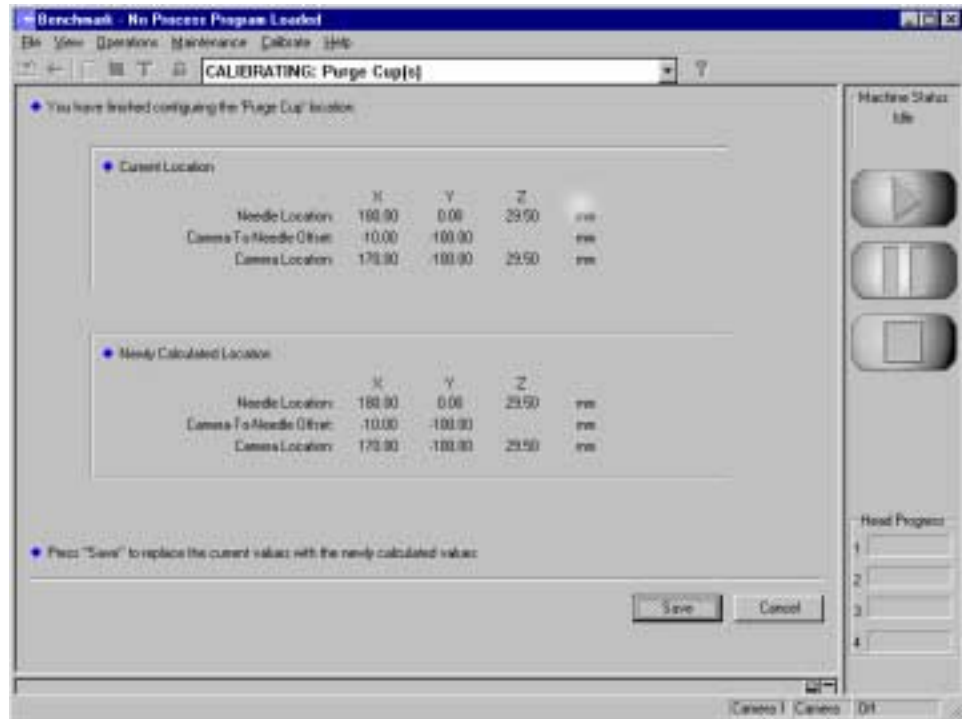

Figure 6-44
10. Select the **Next >** button in the calibration screen. The current and newly calibrated locations are displayed in the **Purge Cup(s)** calibration screen. See Figure 6-44.